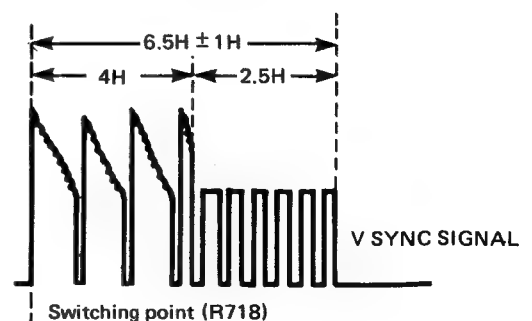

Figure 91.
4. Adjust R718 so that the output of CH-1 falls at $6.5H \pm 1H$ ahead of V-sync signal output of CH-2. See Fig. 91.